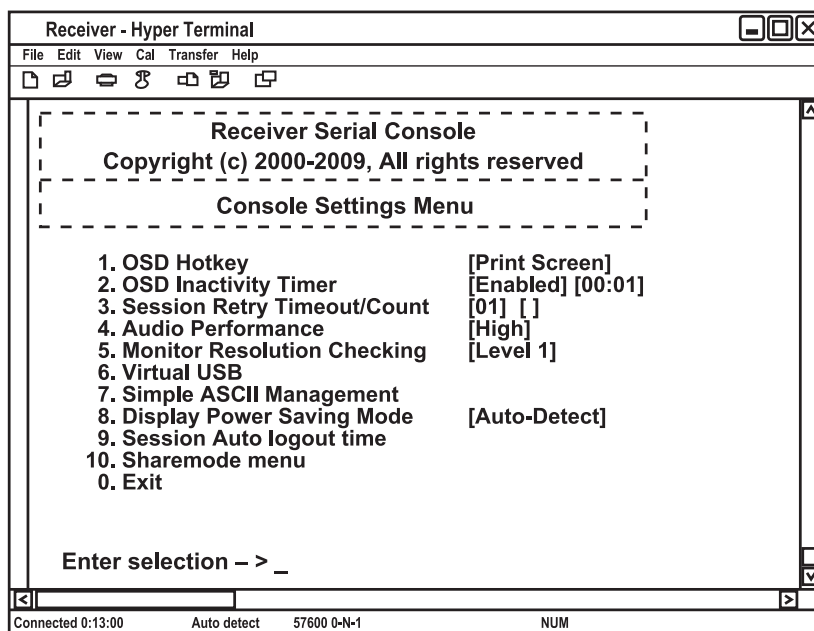

Figure 4-36. Receiver Console Settings Menu.
1. From the serial menu, press "1" to access the Receiver Main Menu and press "Enter." If the password option is enabled, you will be prompted for a password. Press "8" to access the Console Settings Menu and press "Enter." The current OSD time-out configuration is displayed beside menu item 2. See Figure 4-36.